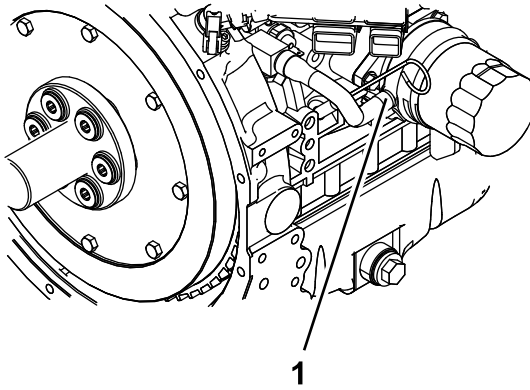

Figure 53
6. Remove the coolant hose from the oil cooler and drain the coolant from the engine block (Figure 53).